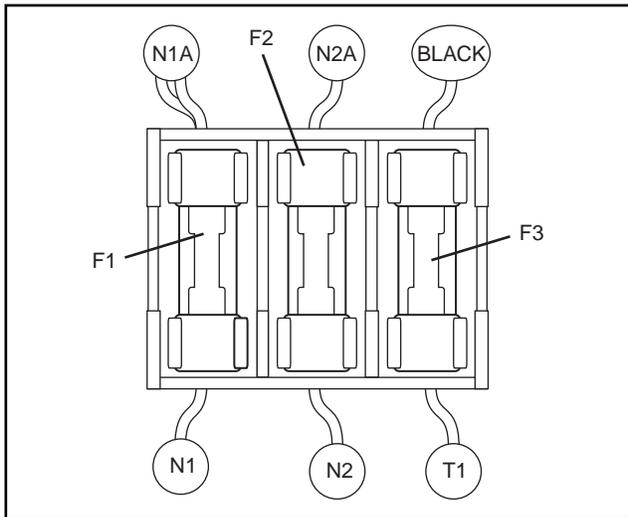

Figure 8. Fuse Holder and Fuses
3. Remove fuses F1 and F2 from the fuse holder (see Figure 8).